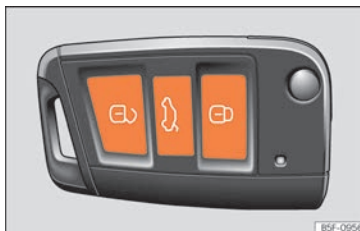

Fig. 72 Remote control key: buttons.
- Lock: press the  **Fig. 72** button.